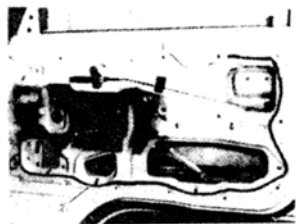

Fig. 4.1-11
4) Use adhesive agent to adhibit front door seal membrane on door inner panel tightly, see Fig. 4.1-11.